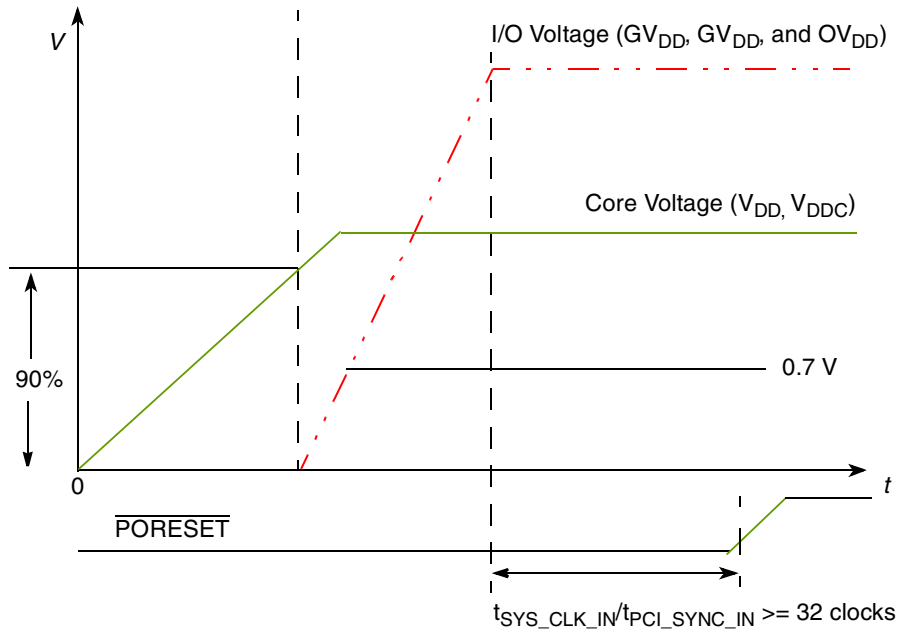

Figure 2. Power-Up Sequencing Example
- (L,M,O) V_{IN} and MV_{REF} may overshoot/undershoot to a voltage and for a maximum duration as shown in Figure 2.
The MPC8313E does not require the core supply voltage (V_{DD} and V_{DDC}) and IO supply voltages (GV_{DD} , LV_{DD} , and OV_{DD}) to be applied in any particular order. Note that during power ramp-up, before the power supplies are stable and if the I/O voltages are supplied before the core voltage, there might be a period of time that all input and output pins are actively driven and cause contention and excessive current. In order to avoid actively driving the I/O pins and to eliminate excessive current draw, apply the core voltage (V_{DD} and V_{DDC}) before the I/O voltage (GV_{DD} , LV_{DD} , and OV_{DD}) and assert $\overline{\text{PORESET}}$ before the power supplies fully ramp up. In the case where the core voltage is applied first, the core voltage supply must rise to 90% of its nominal value before the I/O supplies reach 0.7 V; see Figure 2. Once both the power supplies (I/O voltage and core voltage) are stable, wait for a minimum of 32 clock cycles before negating $\overline{\text{PORESET}}$.